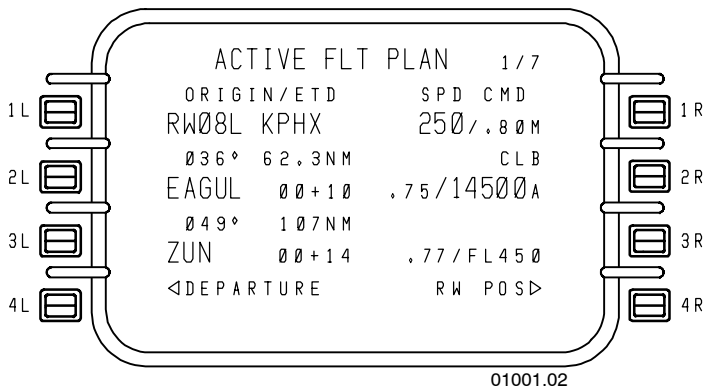

Figure 4-43
Updates are made by pressing the line select key (4R) adjacent to the RW POS prompt on the ACTIVE FLT PLAN page. This is shown in Figure 4-43. This will display the POSITION INIT page.